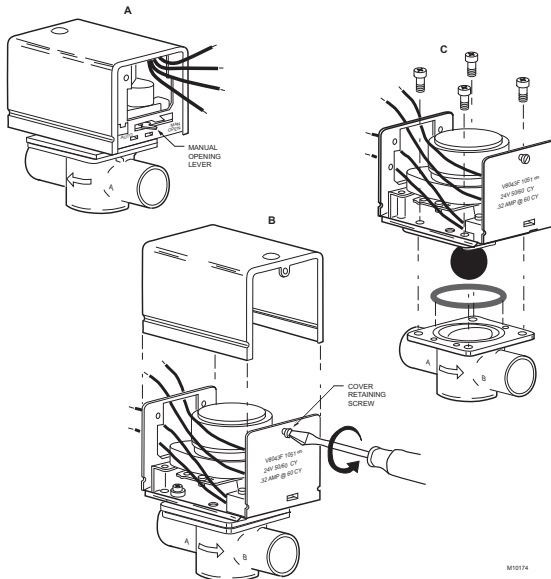

Fig. 2. Remove old powerhead from old style valve bodies.
4. Remove the old powerhead from the valve body. (See Fig. 2.)